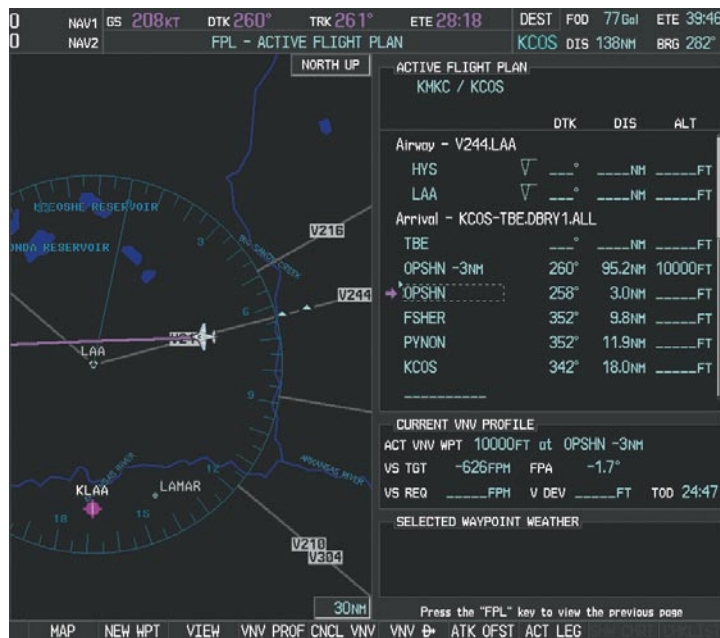

Figure 5-124 Direct-to Active
h) Press the **ENT** Key twice to activate the direct-to. Note, in Figure 5-124, the magenta arrow indicating the direct-to OPSHN after the offset waypoint for OPSHN. The preceding offset waypoint indicates the offset distance and altitude that were previously entered. The remaining waypoints in the loaded arrival procedure have no database specified altitudes, therefore, dashes are displayed. Keep the CDI centered and maintain a track along the magenta line to OPSHN.